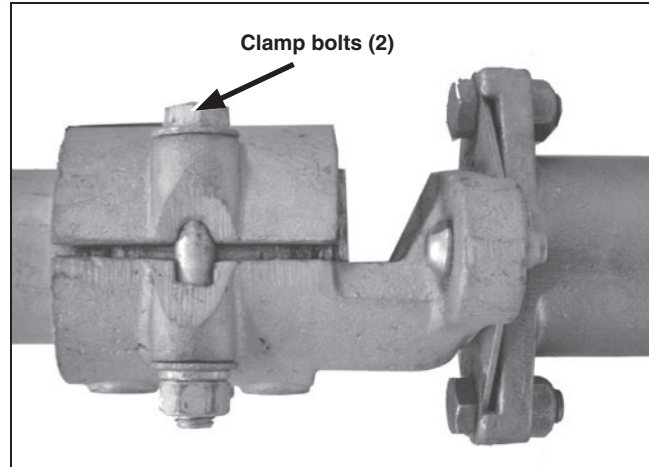
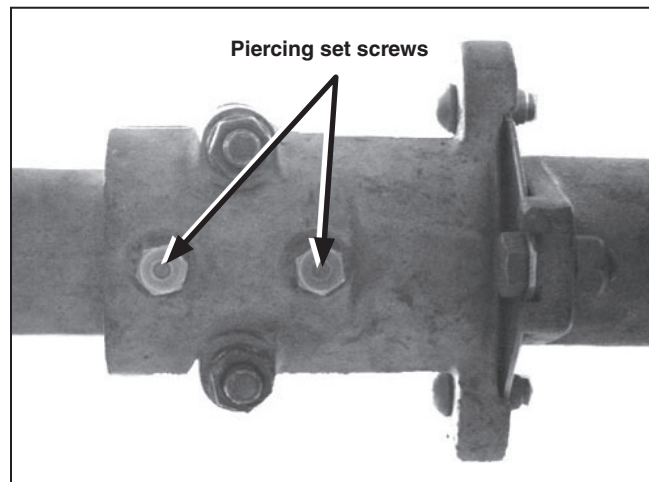
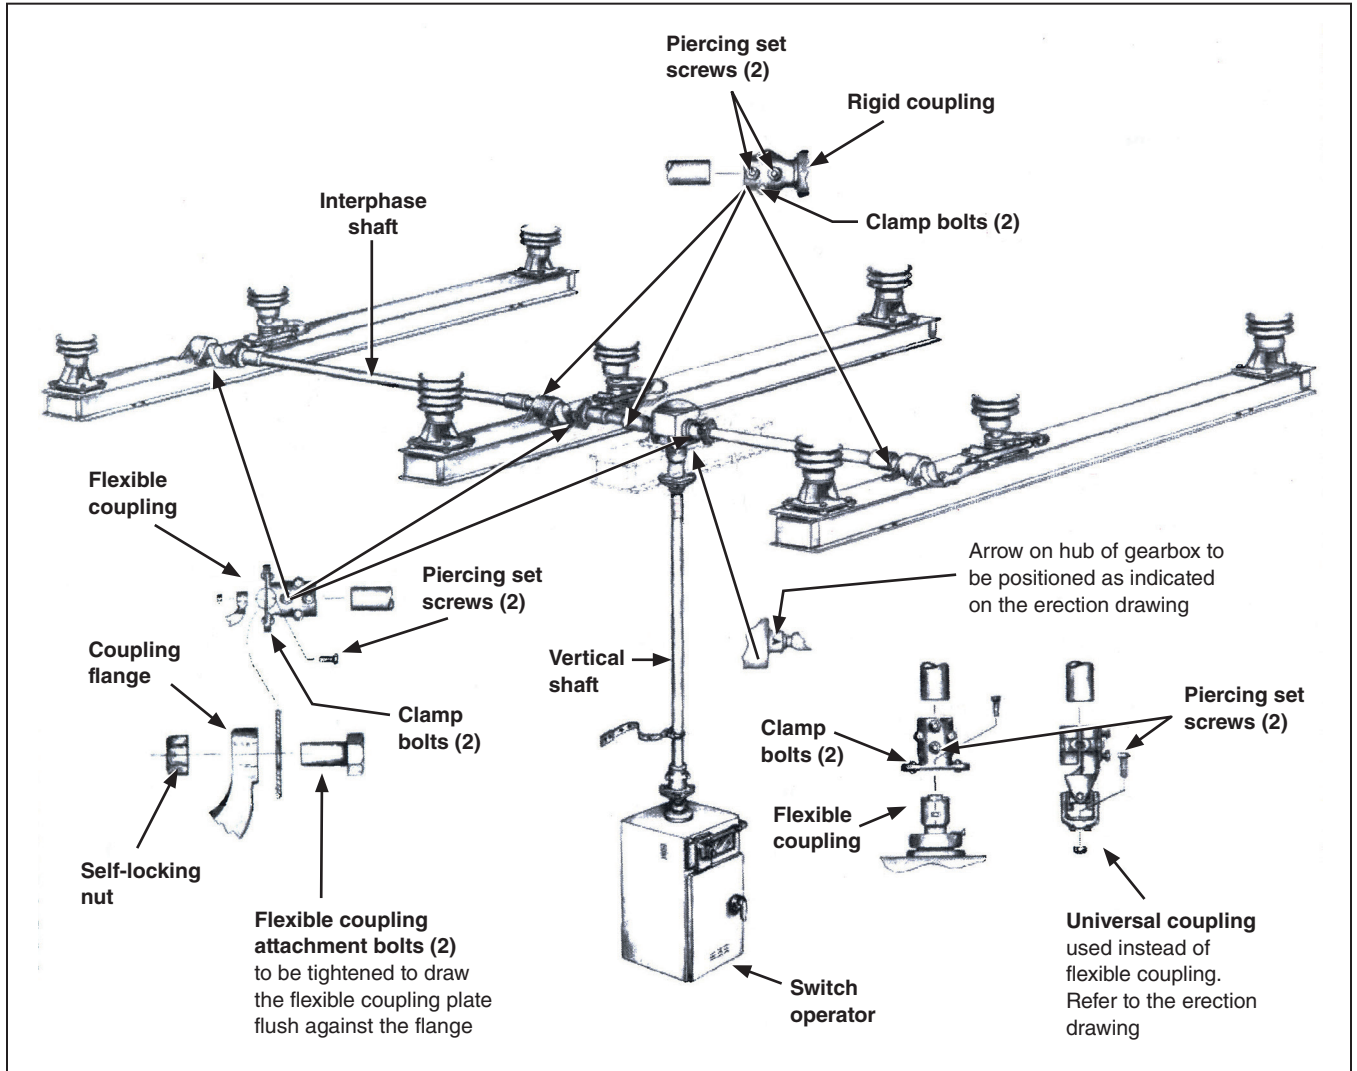

Figure 19. Coupling showing clamp bolt. There are two clamp bolts per coupling.
Figure 20. Coupling showing piercing set screws.
Figure 21. Power train.
To ensure the integrity of the operating mechanism, it is imperative careful attention be given to the correct installation of the piercing set screws provided on the operating-shaft couplings. See Figure 19 and Figure 20. Before installing an operating shaft in any coupling, make certain the cutting tips of the piercing set screws do not protrude through the body of the coupling. Tighten each piercing set screw as directed in the step-by-step instructions that follow, but in each case, only after the associated clamp bolts have been torqued to final tightness.
- STEP 1.** Attach the coupling assemblies for the interphase and connecting shafts to the switch pole-units and gearbox as shown on the erection drawing. See Figure 21 on page 23. Thread the flexible-coupling attachment bolts through the flexible-coupling plate and through the coupling flange. Tighten the bolts to draw the flexible plate flush against the flange; this will deform the threads in the flexible plate, resulting in a binding, nonslip connection. Install and tighten the self-locking nuts. Do not use lockwashers with the flexible-coupling attachment bolts.
- STEP 2.** Install the interphase and connecting shafts as shown on the erection drawing. When performing this operation make certain the cutting tips of the piercing set screws do not protrude through the body of any coupling. Tighten the clamp bolts equally so the clamp pulls down evenly. Then, tighten the associated piercing set screws, piercing the shaft, and continue turning until a firm resistance is felt. See Figure 19 and Figure 20.
STEP 2. At the gearbox end of the vertical shaft make certain the cutting tips of the piercing set screws do not protrude through the body of the universal or flexible coupling. See Figure 19 on page 22 through Figure 21 on page 23. Install the vertical shaft. Tighten the clamp bolts equally so the clamp pulls down evenly. Then tighten the associated piercing set screws, piercing the shaft, and continue turning until a firm resistance is felt.